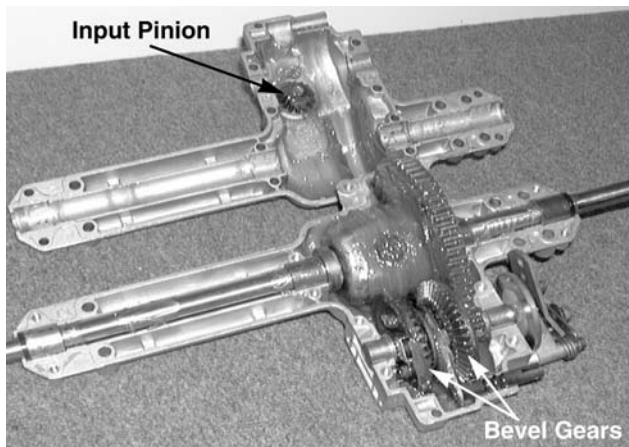

Figure 8-70.
29. Place the upper transmission housing over the lower housing and rotate the input shaft, making certain the bevel gears mesh correctly with the input pinion. See Figure 8-70.